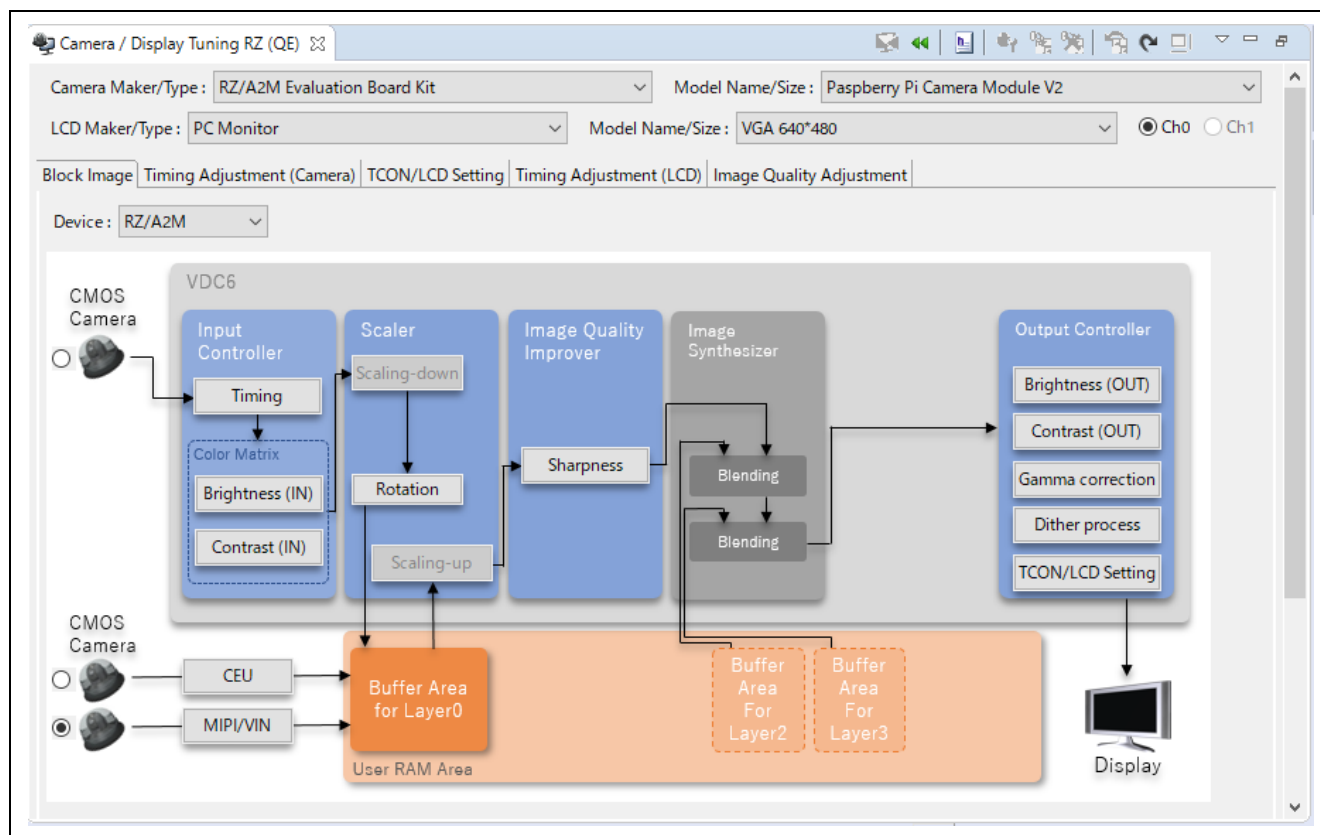

Figure 9-1 Camera / Display Tuning RZ (QE) Launch Screen
9.1 Launching “Camera / Display Tuning RZ (QE)”
From the e2 studio menu select **Renesas Views** → **Renesas QE** → **Camera / Display Tuning (QE)** to launch Camera / Display Tuning RZ (QE) (Figure 9-1).
The block diagram shown in Figure 9-1 indicates H/W block diagram of VDC and user can make out the image data flow between camera input and display output. Also, user can make out the positional relationship of various image correction.